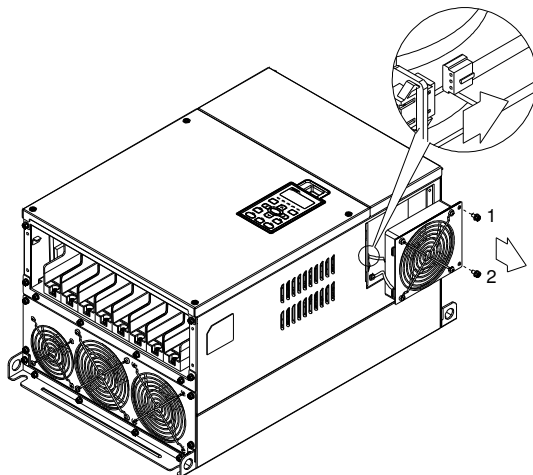

Figure 3
1. Loosen screw 1~2 (figure 3) and disconnect fan power and pull out the fan. (As shown in the enlarged picture 3) Screw1~2 『Torque : 24~26kgf-cm (20.8~22.6lb-in)』